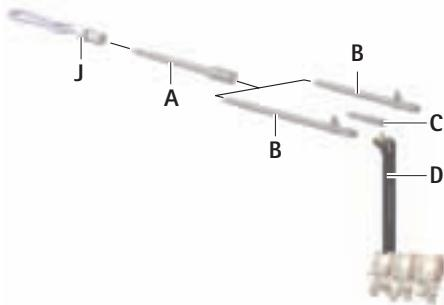

Fig. 2
- To extend the construct, install connecting piece with quick-release coupling **A** on the respective coupling, see Fig. 2.